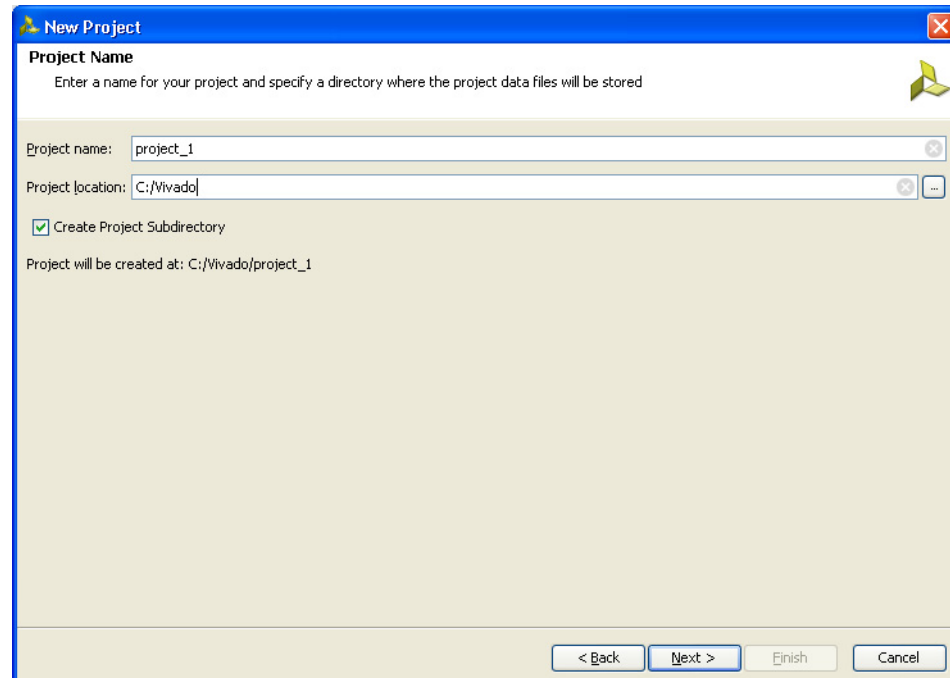

Figure 3-3: Project Name
3. Click **Next** to proceed to the Project Name page (Figure 3-3). Enter the Project Name and Project Location. Based on the details provided, the project is saved in the directory.